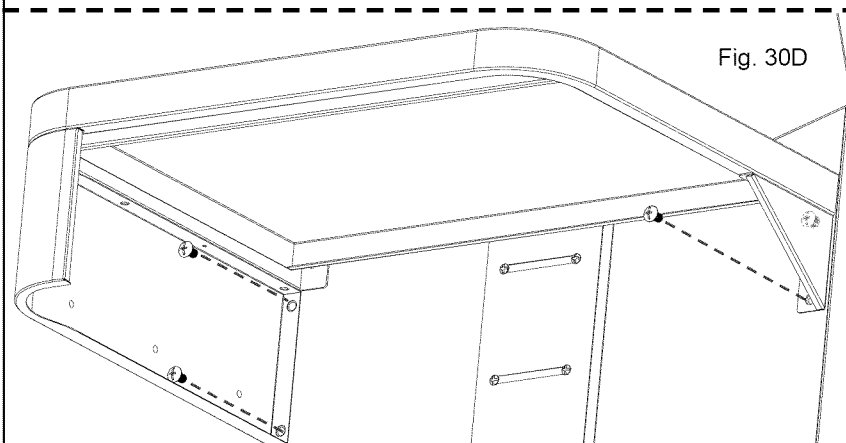

Fig. 30D
Attach the Side Shelf to the cabinet using (3) M6x12 bolts as shown as Fig. 30D. Then Tighten the bolt pre-assembled on step 30A.